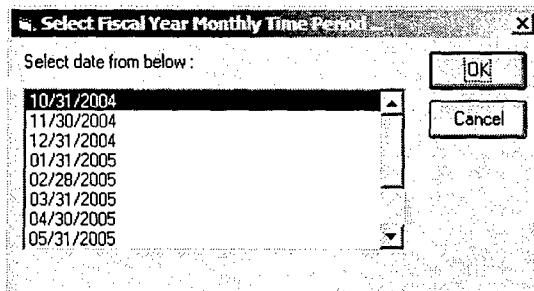

Figure 16. Select Monthly Time Period for ACOL Calculation
- Select a monthly time period from the list provided (Figure 16). The time period is used to select an all-Army inventory that the ACOL calculation needs in order to collapse some pay tables.
2. Select a monthly time period that corresponds to the data extract (see Figure 16).